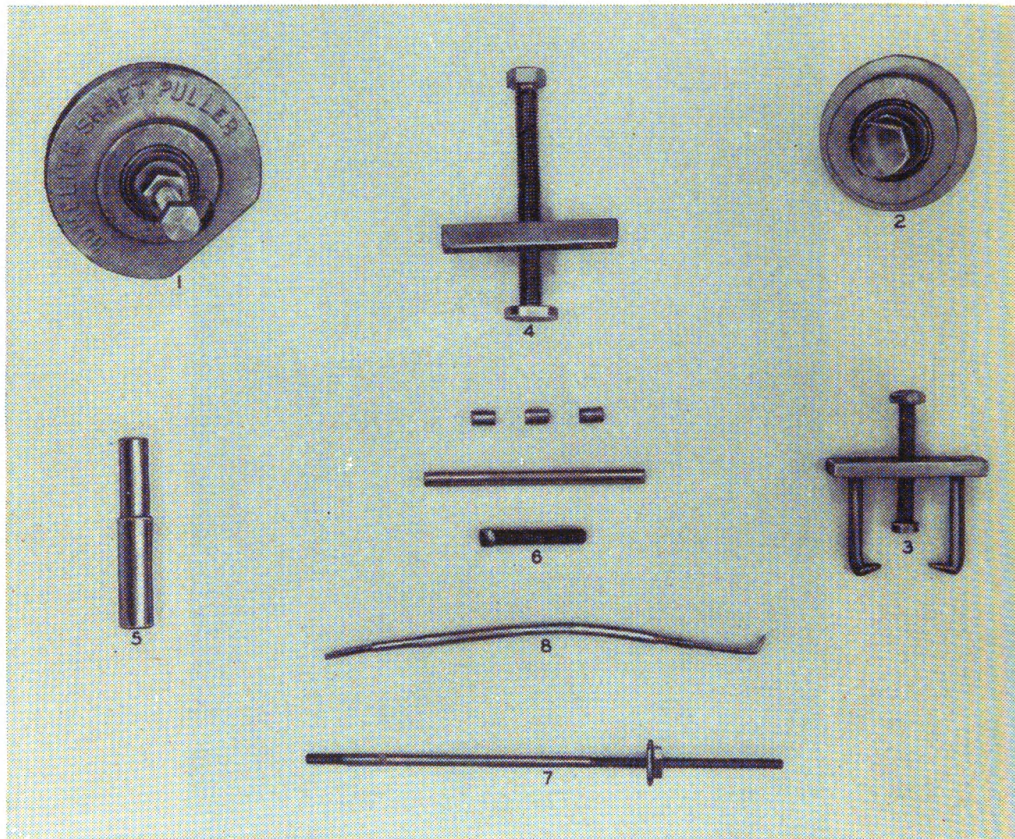
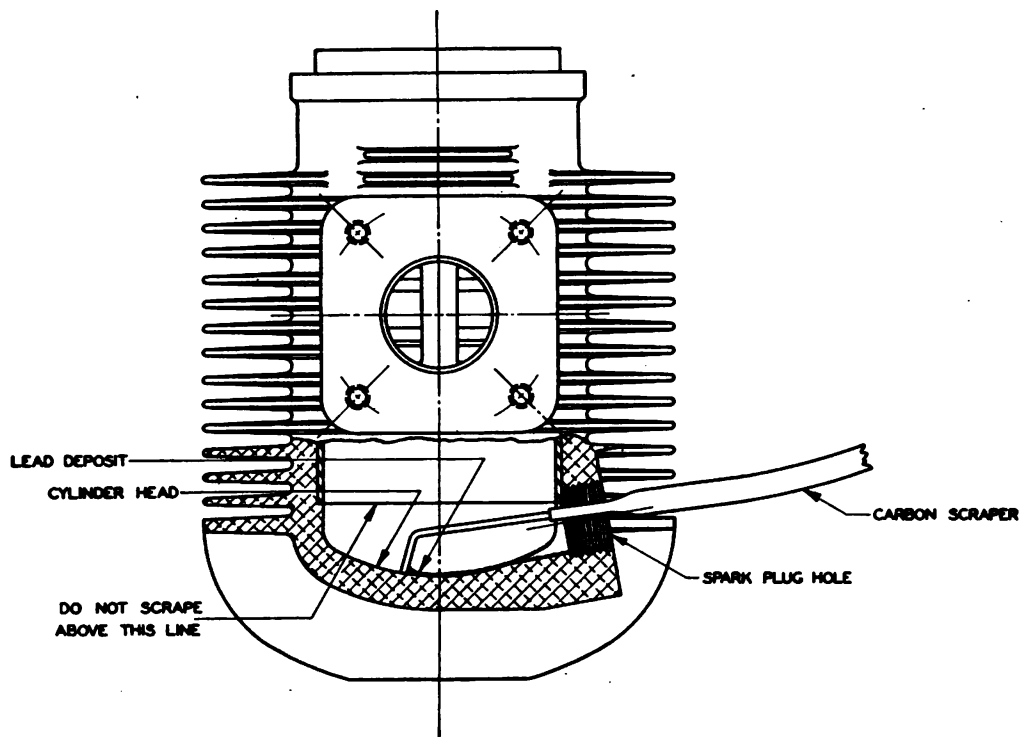

FIGURE 5.—Special tools.
FIGURE 8.—Scraping carbon.
**3. Starting and stopping.**—*a. Fuel mixture.*—(1) Thoroughly mix  $\frac{3}{8}$  pint of oil, engine, SAE 50 or SAE 60, with each gallon of gasoline and pour into the fuel tank mounted above the unit. The fuel tank capacity is approximately 3 gallons. For location of the filler cap see figure 5. Lubrication for the entire engine is obtained by mixing oil with the gasoline, and it is extremely important that
(d) Insert carbon scraper (8, fig. 5) through the spark plug hole and thoroughly scrape the cylinder head to loosen all deposits (see fig. 8). Remove the scraper.